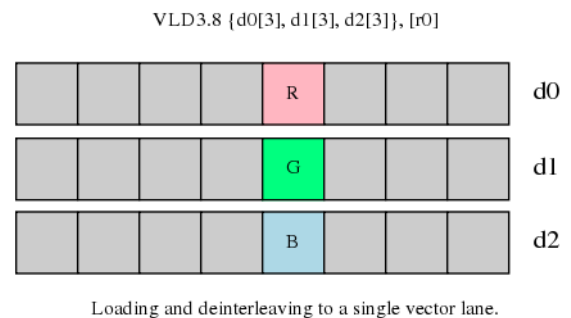

Figure 6-9 Loading and de-interleaving to a single vector lane
- load a single lane with a single element and leave the other lanes unaffected, as Figure 6-9 shows.